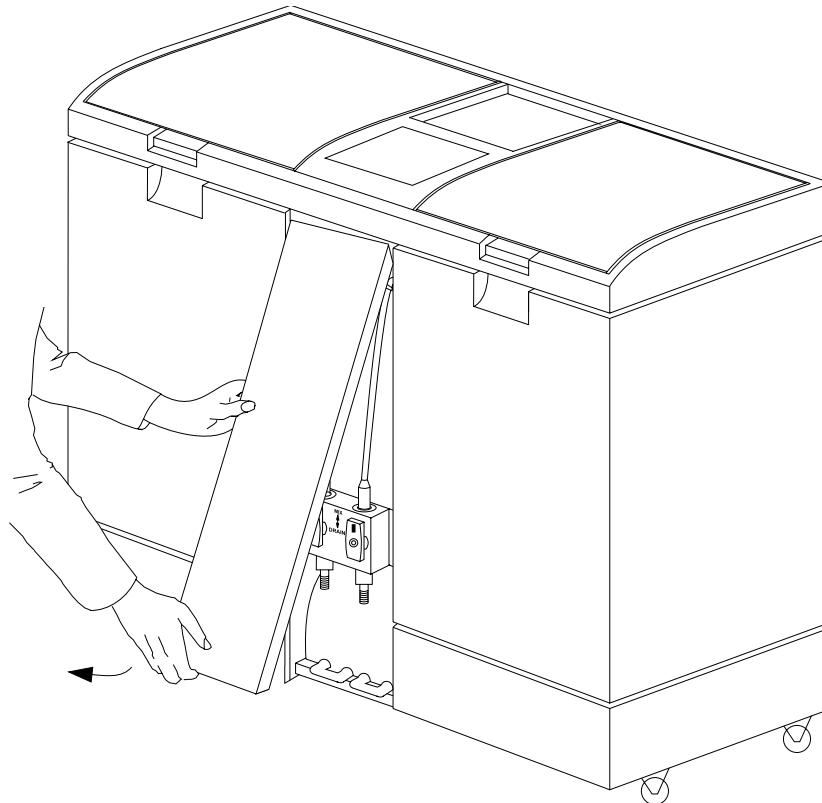
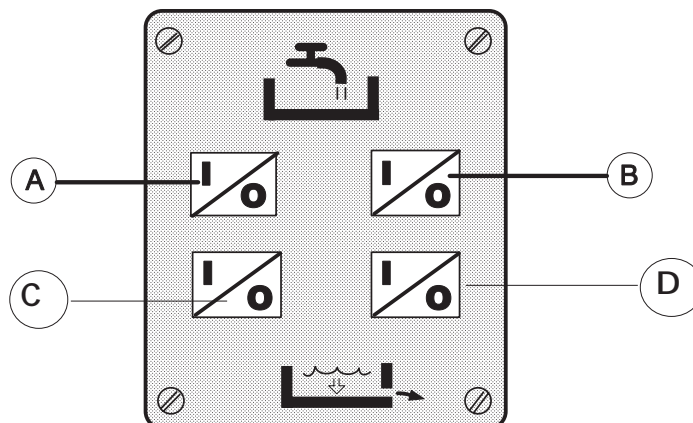

figure 5: Removing the front panel
figure 7: Manual control panel
The manual control panel is situated behind the front panel. To remove the front panel, just pull out its lower end and disengage it (see figure 5). Remember: As soon as the front panel is removed, the KODAK Automixer II Plus goes into the manual mode. The switches on the manual control panel are "ON/OFF" (O/I) switches. If a switch is on, "I" is illuminated (see figure 7).
With the upper push buttons (A and B) on the manual control panel, the water supply for either developer mixing tank (A) or fixer mixing tank (B) or both, can be activated. Pressing a push button once activates the water supply, pressing it again deactivates it. (See figure 7.)
Pressing either (or both) of the pump buttons (C and D) will start the pump for either mixing or draining operations, according to the position of the manual valves. Press again to stop the operation. (See figure 7.)